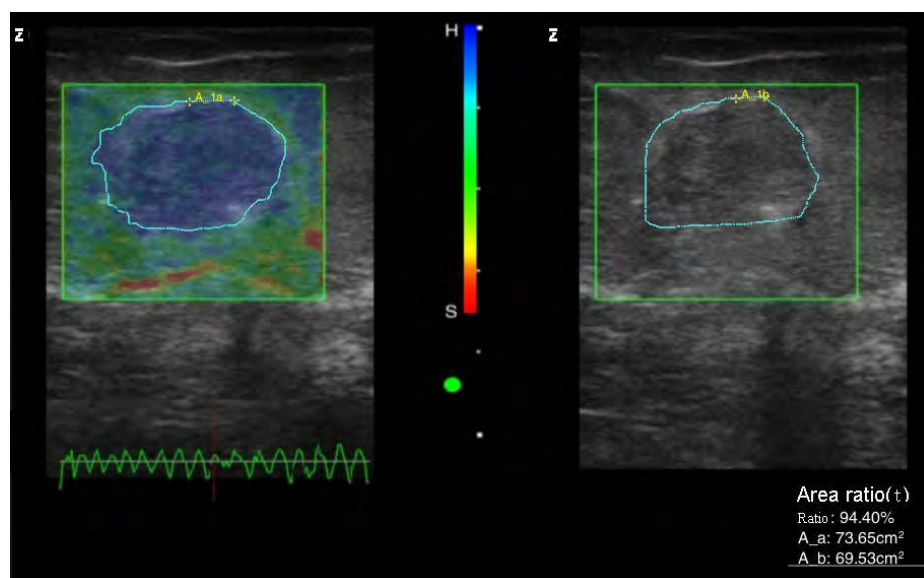

Figure 220: Elastography area ratio measurement
6. Move the cursor to the injured area in the B-mode image and record the injured area according to the above procedure, as shown in Figure 220.